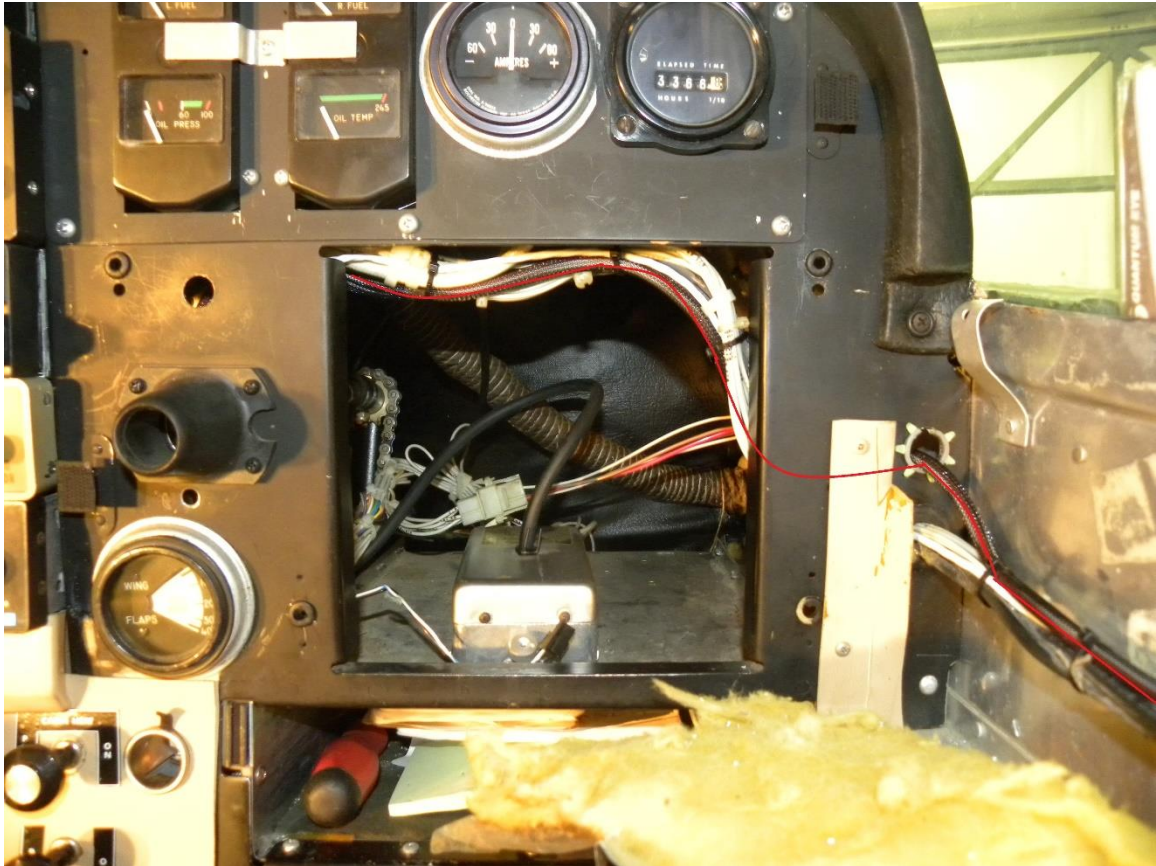

Figure 4-15
7. Begin routing roll servo harness as shown in Figure 4-15. The red line shows the approximate path the harness should take.